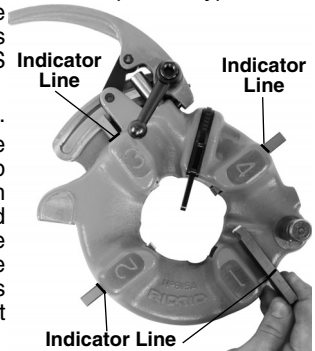

Figure 3 – Inserting Dies
6. Insert appropriate dies into the die head, numbered edge up until the indicator line is flush with the edge of the diehead (see Figure 3). Numbers on the dies must correspond with those on the die head slots. Always change dies as sets – do not mix dies from different sets.